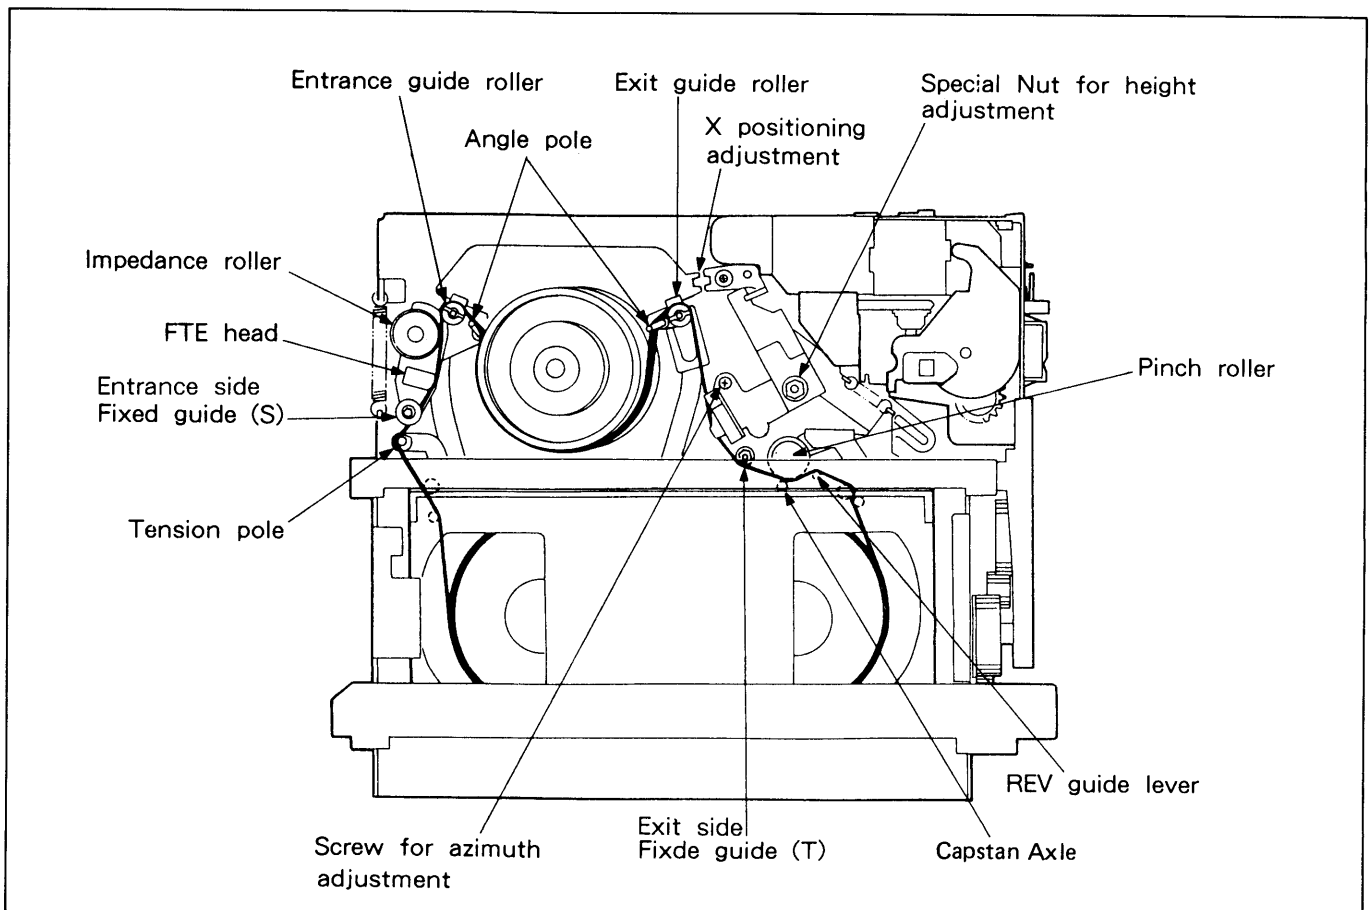

Fig. 6-4-1. Preparation for Adjustment
The tape path mechanism is precisely adjusted at the factory. Normally no readjustment is required, but checking and/or adjustment is necessary when parts of the tape path mechanism among those shown in the figure below (See Fig. 6-4-1.) have been removed or replaced after a long period of use.
- (1) Clean the tape transport surfaces (See Fig. 6-4-1.).
- (2) Connect the oscilloscope. Connect the channel 1 probe to the envelope waveform test point, and the channel 2 probe to the SW30 (RF SW P) test point. During adjustment, apply a trigger to the low side of the SW30 (RF SW P) in order to monitor the waveform output from channel 1 of the video head.